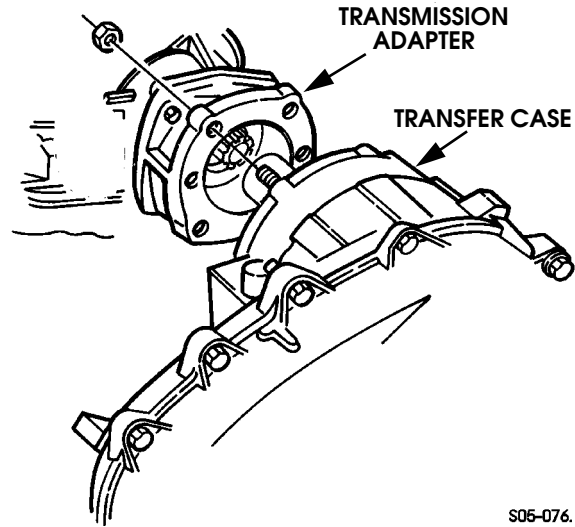

Figure 5-83: Separating Transfer Case From Transmission
10. Remove nuts attaching transfer case to transmission adapter (Figure 5-83).
11. Slide transfer case rearward and remove it from under vehicle (Figure 5-83).